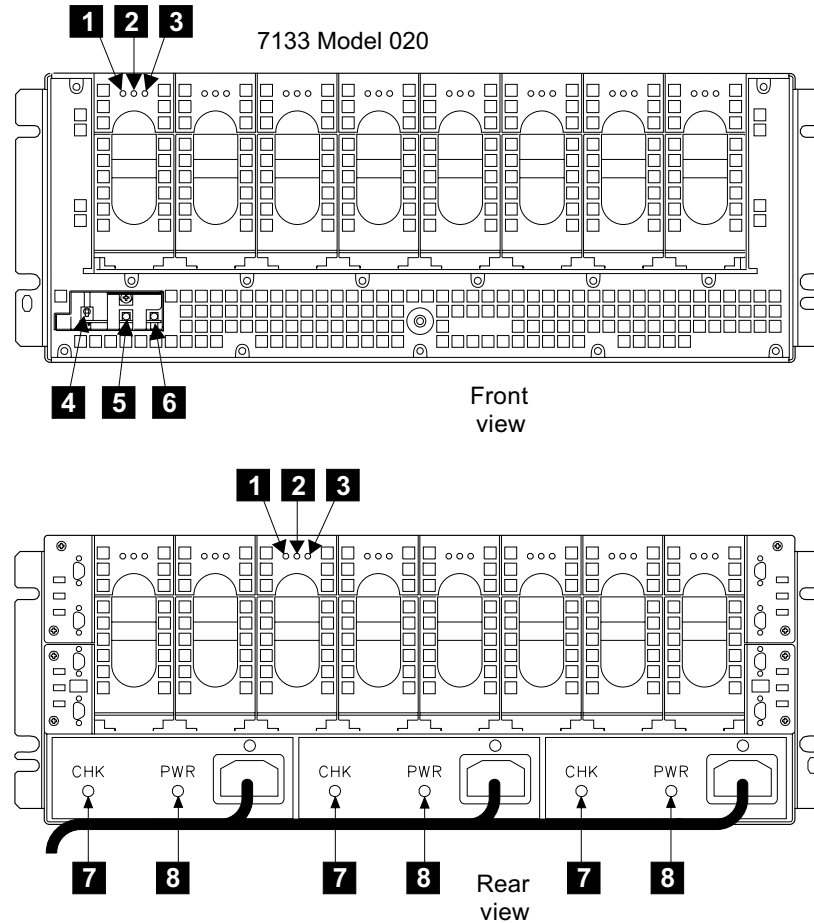

Figure 145. 7133 Model 020 Drawer and DDM Indicators (t008861p)
- ___ 2. Check if the SSA DASD drawer Subsystem Power indicator is on **5** Figure 145.
- c. Verify that the PWR (power) indicator, **8** in Figure 145 on page 159, on the center fan-and-power-supply assembly is on.
- f. Verify that the PWR (power) indicator, **8** in Figure 145 on page 159, on the center fan-and-power-supply assembly is on.